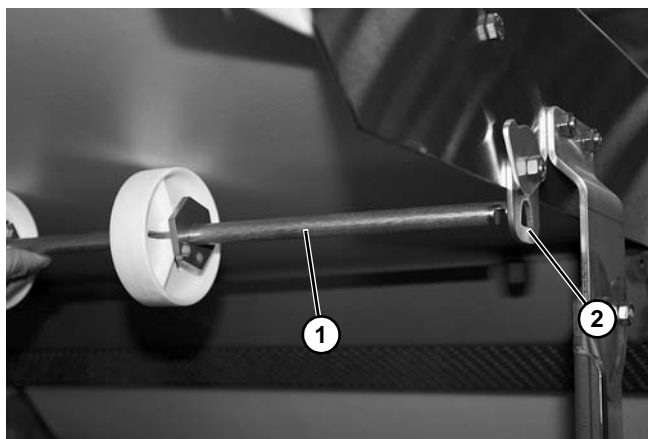

Figure 136
2. Remove belt return assembly (Figure 136, item 1) from return brackets (Figure 136, item 2).